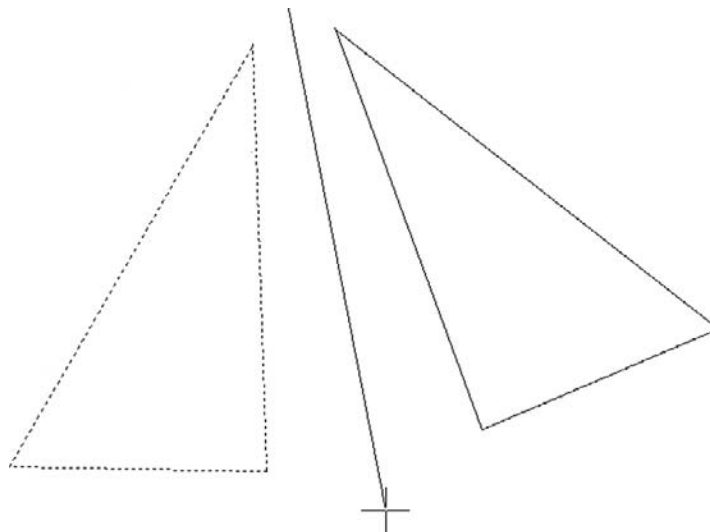

FIGURE 1.32
This command, much as the name implies, creates a mirror copy of an object over some plane. It is surprisingly useful because often just copying and rotating is not sufficient or takes too many steps. To learn this command, you have to think of a real-life mirror, with you standing in front of it. The original object is you, the plane is the door with the mirror attached (which can swing on a hinge), and the new object is your mirrored reflection. To practice this command, draw a triangle by joining three lines together, as seen in Figure 1.32.
- Step 5.** The response in Step 4 just asked you if you want to keep the original object. If you do (the most common response), then just press Enter and you are done. Figure 1.32 illustrates Step 3.